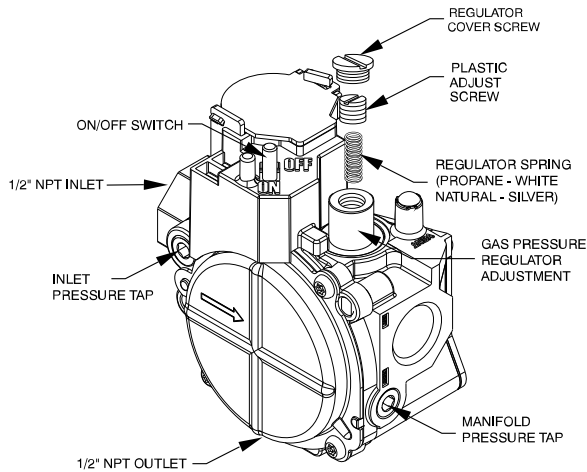

Fig. 12 – Single-Stage Gas Valve
16. Remove regulator cover screw from the gas regulator (see Fig. 12). Save regulator cover screw.
17. Using a screwdriver, remove the plastic regulator adjust screw from the gas regulator (see Fig. 12). Save plastic regulator adjust screw.
18. Remove regulator spring (white) from the gas regulator (see Fig. 12). Discard regulator spring.
19. Install natural gas regulator spring (silver) shipped with this kit. (See Fig. 12).
20. Install plastic adjust screw into the gas regulator, turn clockwise 12 turns (see Fig. 12).
30. Fire unit and verify proper ignition and proper sequence of operation (Table 6). See Table 4 for proper manifold pressure setting for your unit. Adjust the gas valve setting by turning the plastic adjustment screw clockwise to increase pressure and counter-clockwise to decrease pressure. Refer to Table 7 for required rated heating input rates. Replace regulator cover screw when finished (see Fig. 12).